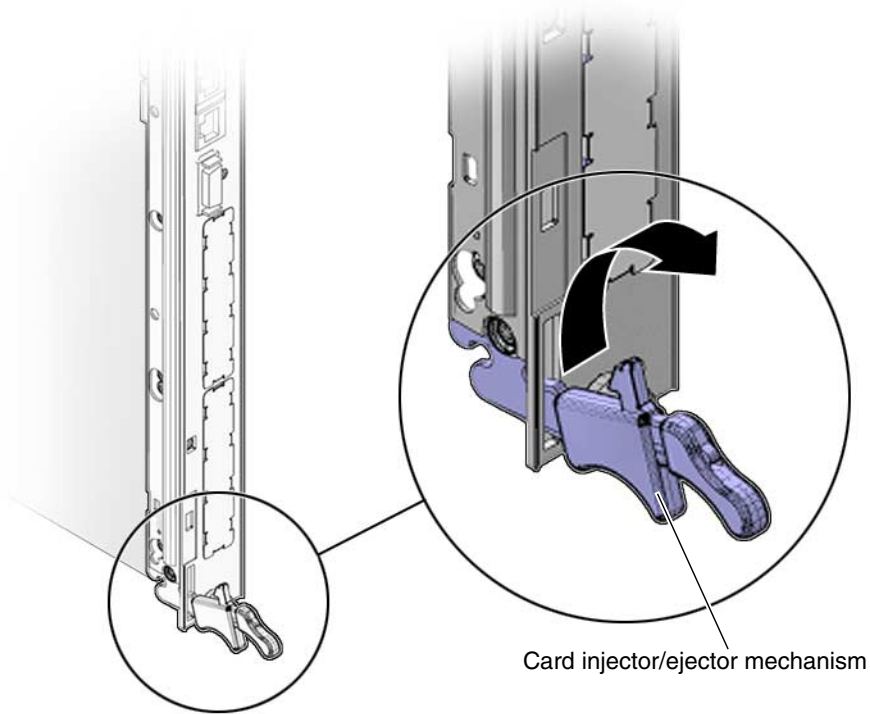

FIGURE 4-6 Injector/Ejector on the Switch (Open Position)
FIGURE 4-6 shows the proper way to remove or insert a hot-swappable board into a system.
4. Prepare the switch by opening its injector/ejector handles (FIGURE 4-6).